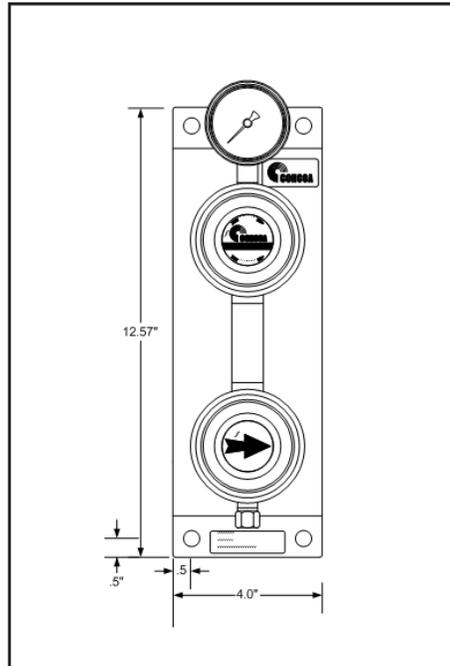

Figure 3
4. As illustrated in Figure 3, the 632 is secured to a panel that has mounting holes located at each corner.